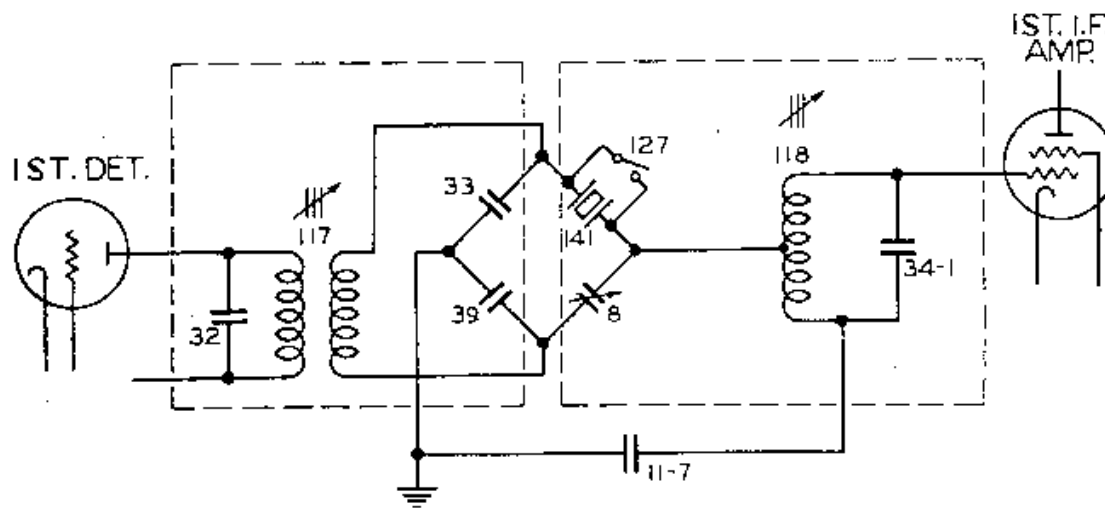

Figure 4-3 Details of Crystal Filter Circuit
h. CRYSTAL BAND-PASS FILTER. (See fig. 4-3)--Additional selectivity is available by the use of the i-f crystal filter preceding the first i-f amplifier tube. This crystal filter comprises a balanced capacity bridge circuit which may be adjusted internally to provide a band width of 800 to 3,000 cycles at 10X down from resonance. The tapped tuned circuit (118 and 34-1) matches the impedance of the crystal bridge to the first i-f grid. The crystal filter may be switched in or out of the circuit by the CRYSTAL OUT-IN switch 127, actuated from the front panel. The symmetry of the resonance curve is adjustable by the balancing capacitor 8. The filter band width is adjustable by the secondary core of the first i-f transformer 117. As delivered by the manufacturer, the band width is set at approximately 2,000 cycles.